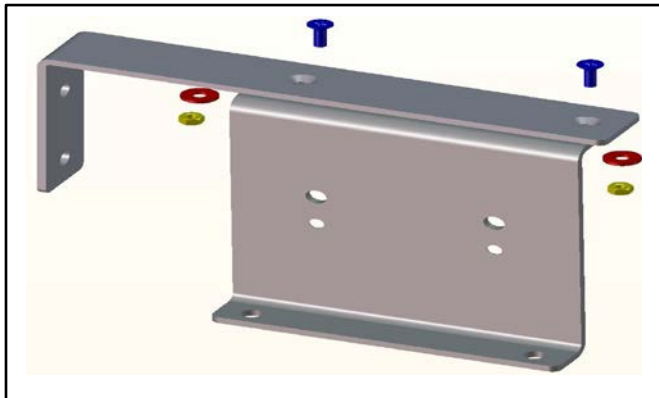

Figure 75
1. Pre-assemble the Z shaped bracket to the larger wireless bracket. Use the shorter 12mm screws and the standard M4 hex nuts to attach. (See Figure 75 & 76.)